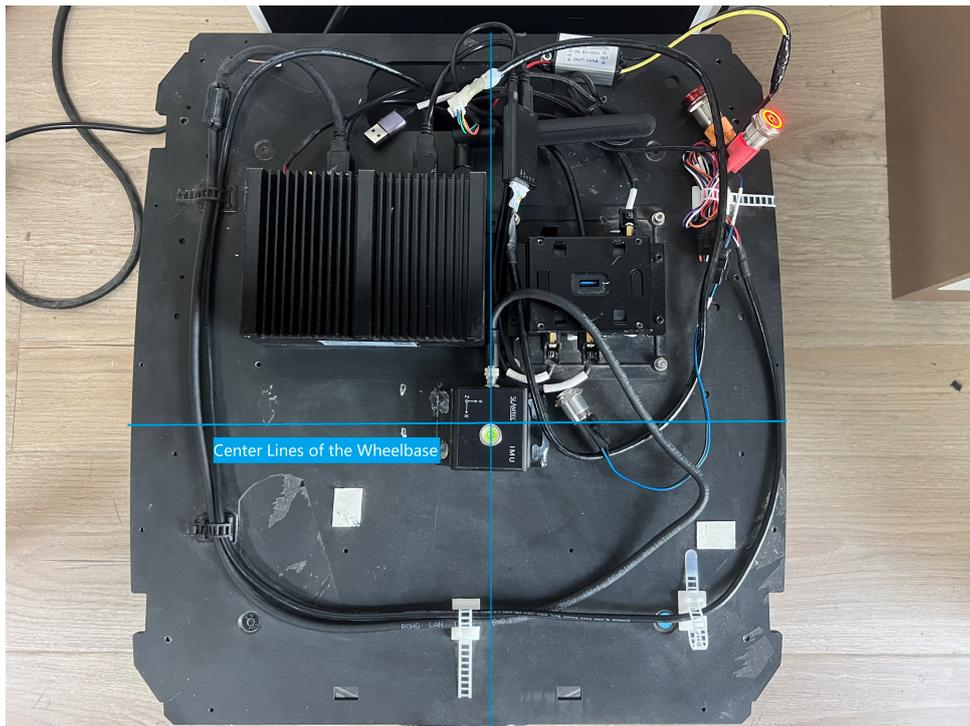

Figure 3.3: Installation of License Card
- The installation of license card follows the right-hand system rule, meaning the positive direction of the X-axis marked on the license card corresponds to the front direction of the robot, and the positive direction of the Y-axis marked on the license card aligns with the left side of the robot. Additionally, it is recommended to install the license card at the center or along the centerline of the robot, specifically on two perpendicular lines passing through the center of the wheelbase or the midpoint of the wheelbase, as illustrated in figure 3.3 below.